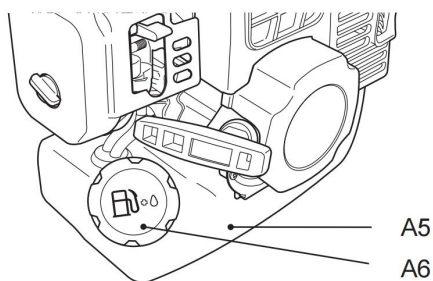

Fig. 25
7. Unscrew and remove the fuel tank cap (A6) (Fig. 25).